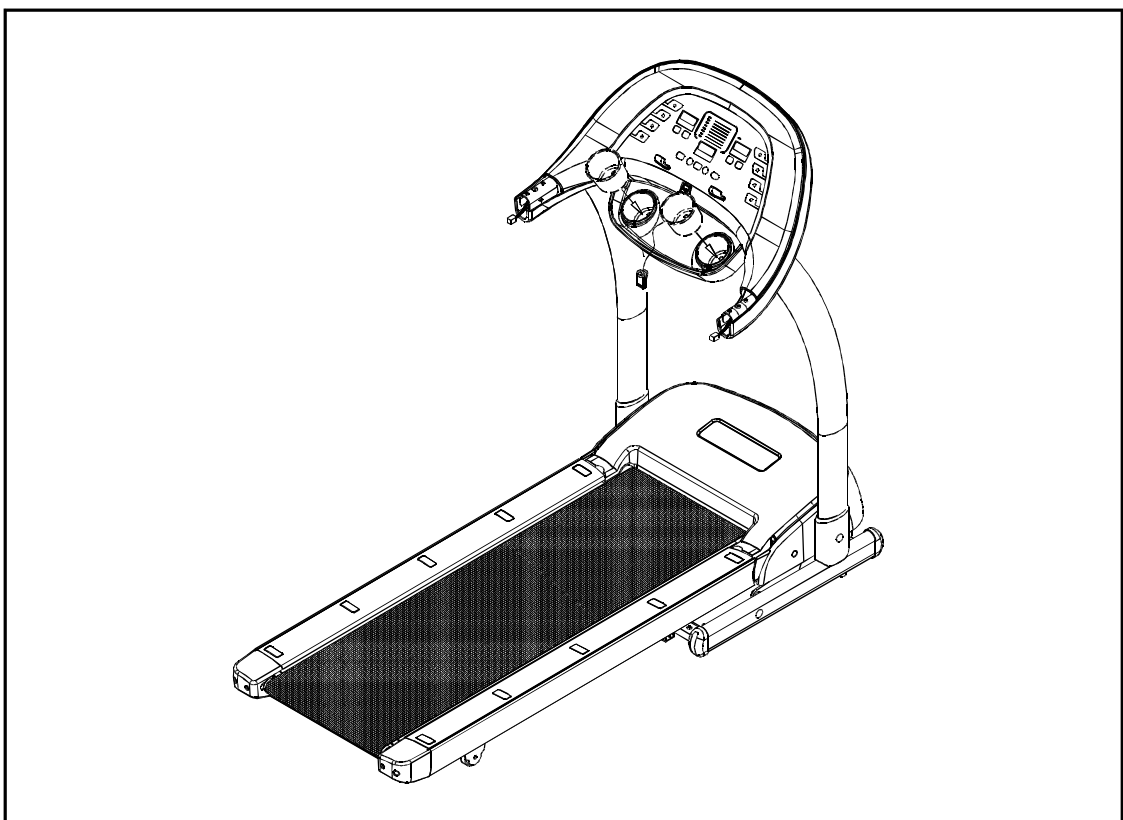

Fig.6
6. Insert the water cup to the display board as shown on Fig 6.